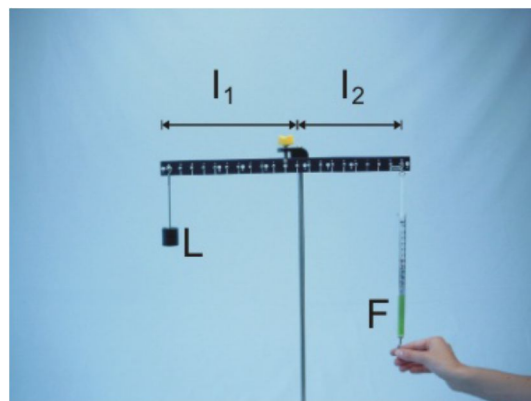

Fig. 6
- Hang the spring balance on the right side of the lever at the 10 mark and pull the lever into a horizontal position with it (Fig. 6).